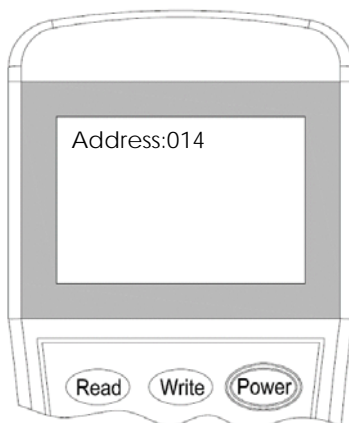

Fig.14 Tone setting
2. Switch-on the programmer, then press button **"4"** to set the desired tone, as shown in figure 14. Write the number of the corresponding tone and click the button **"write"**. The word **"Success"** or **"Fail"** on the screen means that the success or not of the encoding mode setting, as shown in figure 15 and figure 16.